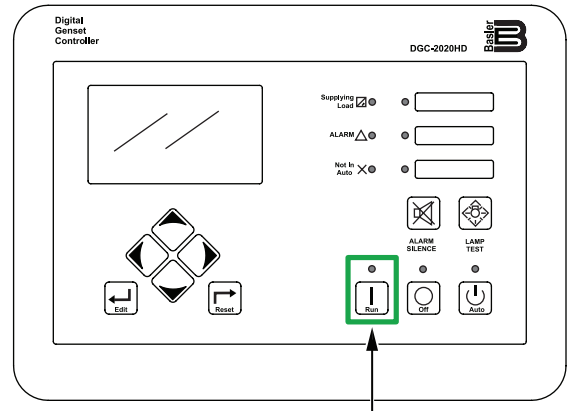

Figure 6. Digital Controller (Run Button)
- To start the engine, press the **Run** button (Figure 6) on the digital controller.